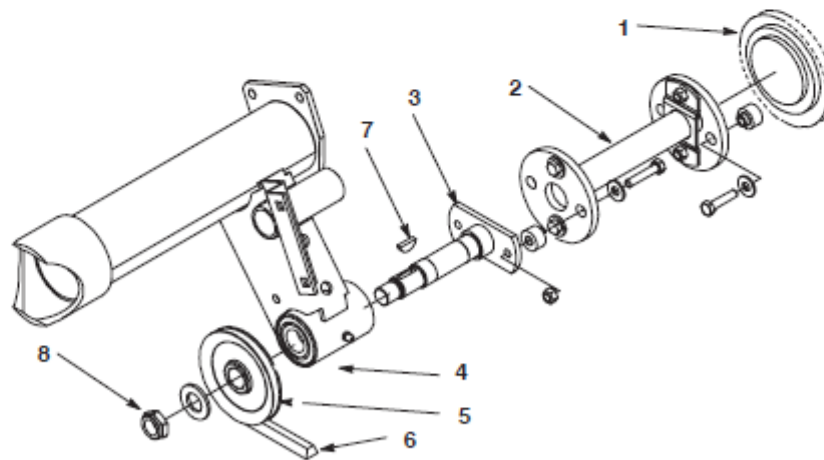

Figure 1
4. Remove the (2) capscrews, washers, and thick spacers securing the front drive shaft coupling to the engine pulley (Fig. 1).
5. Remove the (2) capscrews, washers, and spacers securing the rear drive shaft coupling to the jack shaft assembly (Fig. 1).
6. Loosen the idler pulley tensioning the hydraulic pump drive belt and remove the belt from the jackshaft drive pulley (Fig. 1).
7. Remove the locknut and washer securing the jack shaft drive pulley to the jack shaft. Retain the parts for re-installation (Fig. 1).
8. Remove the pulley from the jackshaft (Fig. 1).
9. Remove the Woodruff key from the drive jack shaft. Retain the key for reinstallation (Fig. 1).
10. Slide the jackshaft out of the jackshaft support (Fig. 1).